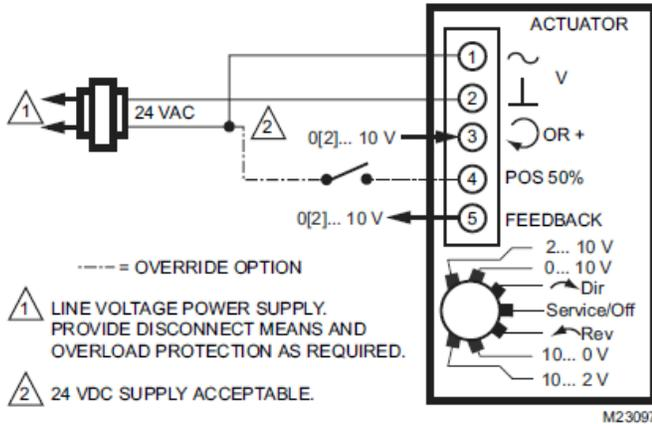
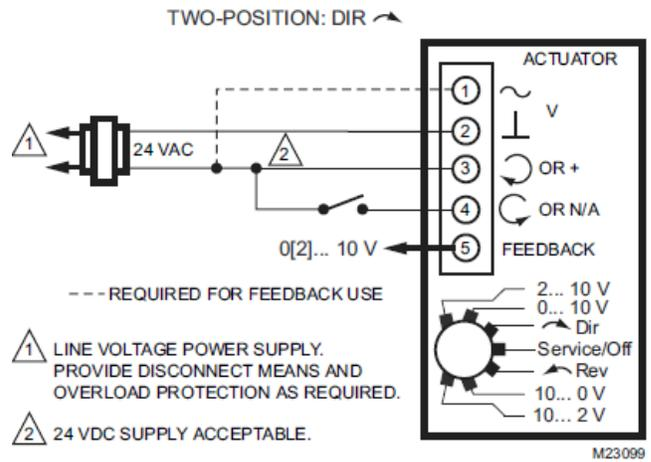

Figure 13. MN7510 (Modulating Mode).
Figure 15. MN7510 (2-Position Mode).
2. Perform the wiring of actuator using Figure 13 to Figure 15 as per the required application.
If the function selection switch has been set to one of the four modulating control settings - and if the actuator is wired correspondingly (see Figure 13) - then as soon as operating power is applied, the shaft adapter will run first completely counterclockwise and then completely clockwise, after which it will run according to the control signals applied.
Use the above flow curve with given actuator control signal settings to configure 6-way valve for Sequence 1 (cooling), Sequence (2), and Off-position. Note that in Figure 13 it is shown how to override the actuator with a switch on wiring terminal 4 to go to the 50% position. This may also be used to rotate the valve to the zero (closed) position.
If correspondingly wired, the actuator provides, via terminal 5 (see Figure 13 to Figure 15), a feedback signal proportional to the actual position of the shaft adapter.